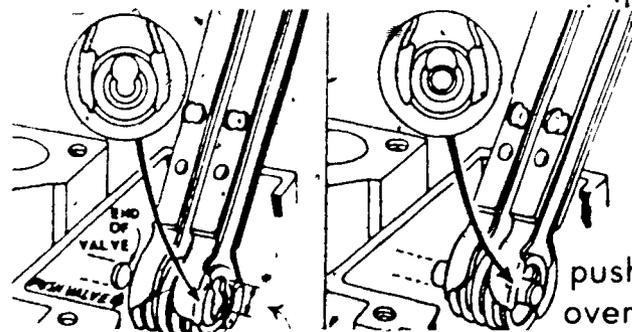

FIGURE 12
- T Install valve springs on correct valves (Figure 12)